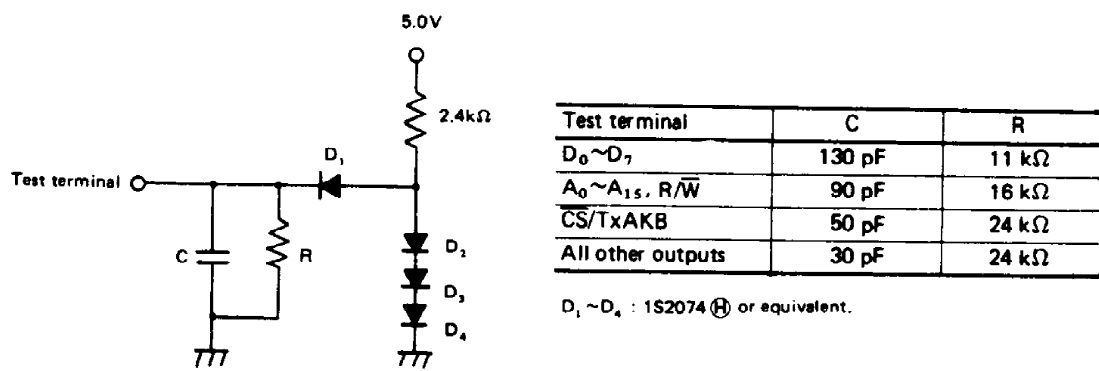

Figure 9 Load Circuit
• AC CHARACTERISTICS (Load Condition Fig. 9)
2. DMA TIMING (Load Condition Fig. 9)
3. BUS TIMING (Load Condition Fig. 9)